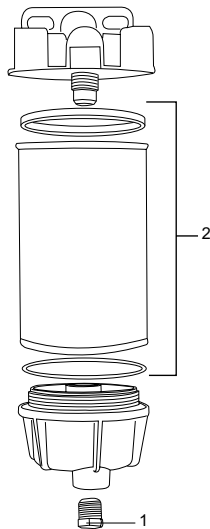

Figure 11-16 Primary Fuel Filter
2. Close the fuel tank valve (if applicable), then loosen/ remove the drain plug (1) at the bottom of the bowl. Figure 11-16 item 1.
2. Close the valve at the fuel tank (if applicable) and then remove the drain plug (1) to empty the filter of fuel.
3. Spin the Element and Bowl off together (use a strap wrench on the element), then remove the bowl from the element (2). Figure 11-16 item 2.